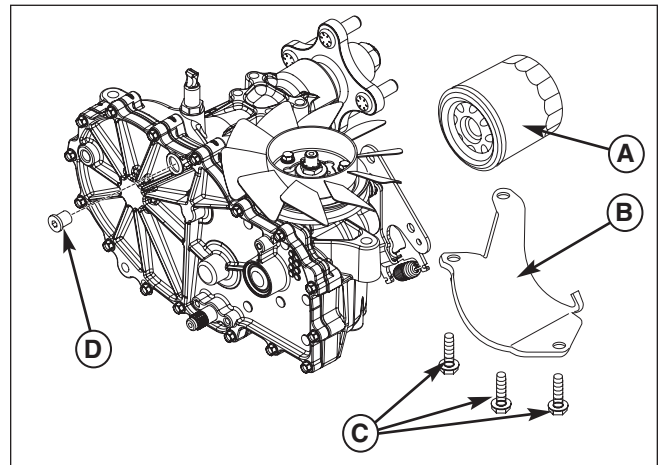

**Figure 26. Transmission Oil Reservoirs**
1. Check the oil level when the unit is cold. Raise the seat plate to gain access to the transmission oil reservoirs (A, Figure 26). The oil should be up to the "FULL COLD" mark (B). If the oil is below this level, proceed to step 2.
3. Add oil up to the "FULL COLD" mark (B, Figure 26).